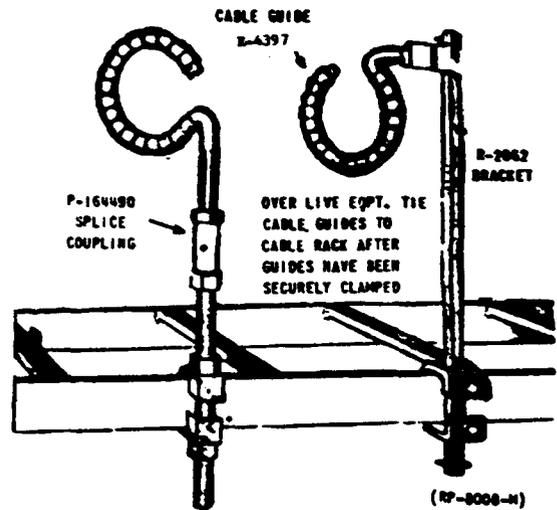

FIG. 18 METHOD OF MOUNTING CABLE GUIDES AND BRACKETS (PAR. 3.62)
3.621 A method for using the R-4397 Cable Guides without the R-2062 Bracket is to clamp the guide onto threaded hanger rods. The guide may also be used by improvising a bracket in this manner; remove the clamping detail from the guide and secure it on to the cable rack; then, screw a piece of threaded rod, to which a P-164490 Splice Coupling has been attached, into the clamp. The cable guide is then secured to the top of the splice coupling. See FIG. 18.